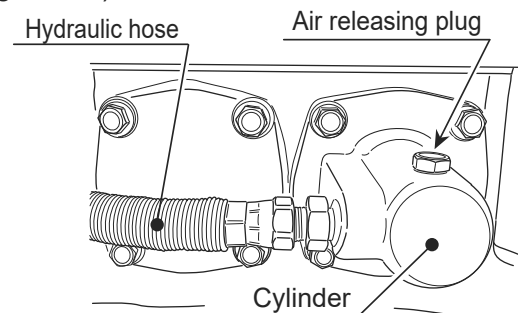

Fig.45
- 2 After the oil is drained, attach the hydraulic hose again to the cylinder on the vibrator side. (Fig.45)
- 4 Remove the air vent plug of the cylinder of the vibrator side. After a while oil will come out, so plug bubbles will be installed when bubbles run out. Please firmly tighten. (Fig.45)